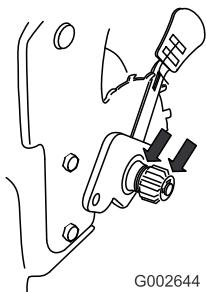

Figure 45
- Apply a lubricating oil to the inner and outer sides of the gear as shown in Figure 45.